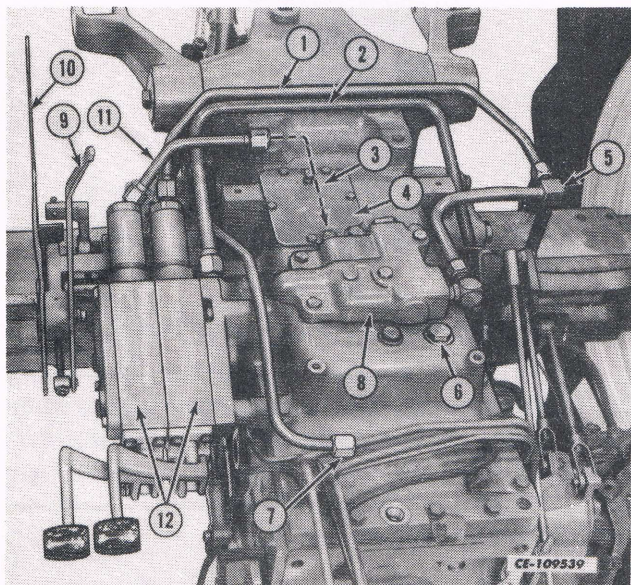

Fig. 42
2. Disconnect the auxiliary valve handles and the hydraulic lines and remove the valves. (12, Fig.42)